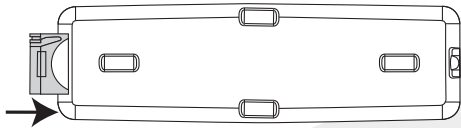

FIG. 43
4. **Snap** the battery sleeve back into the remote (Fig. 43).